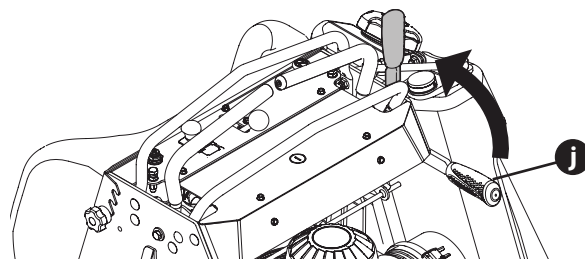

Fig. 3
6. To engage the parking brake, pull back completely on the parking brake lever (j) (Fig. 3).